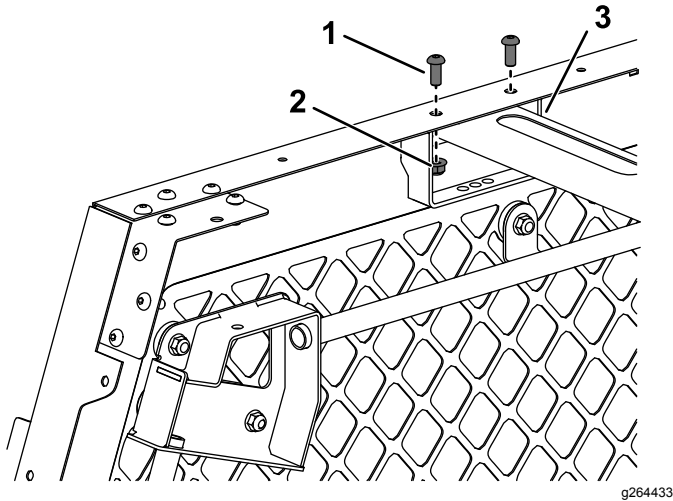

Figure 13
1. Install each side of the support mount with 2 button-head screws (5/16 x 3/4 inch) and 2 flange nuts (5/16 inch); refer to Figure 13.